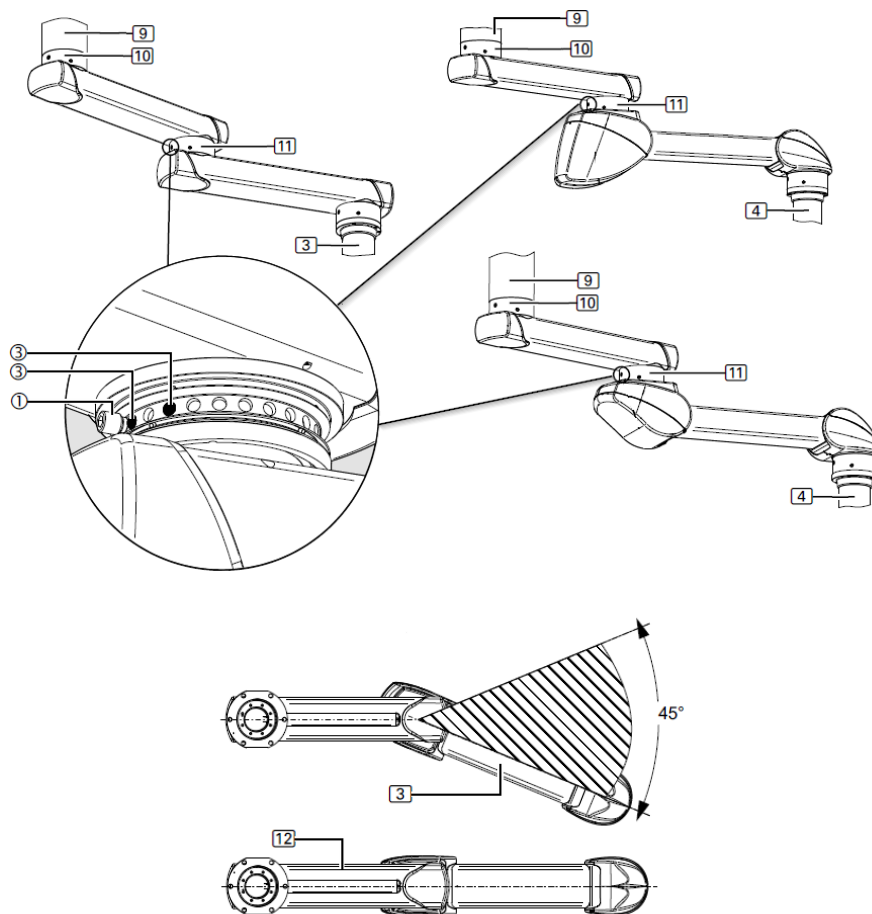

Fig.68 Double double arm system and friction bearing between arms
- For versions with double arm and friction bearing in between, it is recommended to fit 2 ball stops (3) (see Fig. 68). The detailed illustration shows the intermediate bearing (11) (without outer ring) and the position of the stop screw (1) in the ball stops (3).
When adjusting the end stop as illustrated in Figure 68, the dead centre area is 45° . This means that the spring arm (3) has a maximum range of movement of approx. 315° . If the minimum setting on the end stop is not defined while adjusting the brakes on the intermediate bearing (11) and the ceiling bearing (10), it is quite difficult to bend the suspension system from the stretched position (12) and turn it on the intermediate bearing (11) of the spring arm (3).